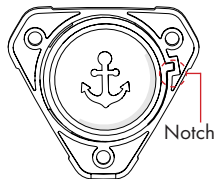

Figure 2
STEP 6 Install the **Membrane** to the **Bottom Housing** so the **Tab** goes into the **Notch** on the **Bottom Housing**. Make sure the **Plastic Disc** does not fall out. **FIG 2**
STEP 4 Remove the (2) **Bumpers**, then lift and pull the **Water Shield** free.
STEP 5 Liberally apply **Dielectric Grease** to all terminals on the **Base PCB**. **FIG 2**